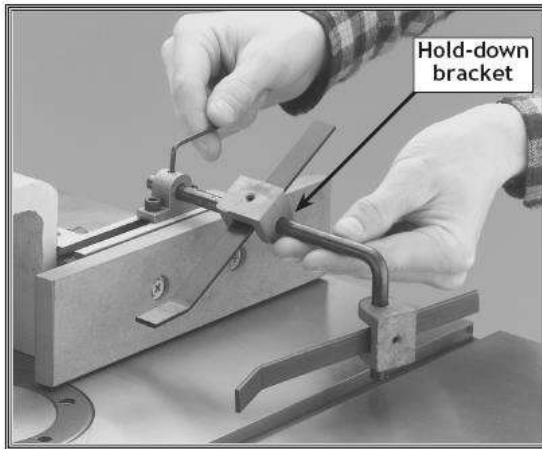

Figure 1.
1. Install two aluminum hold-down brackets onto each of the hold-down bars as shown in **Figure 1**.
2. Insert the long end of the hold-down bar through the hole in the fence mount as shown in **Figure 1**.
4. Screw in, but do not tighten, the set screws into the aluminum hold-down brackets as shown in **Figure 1**.